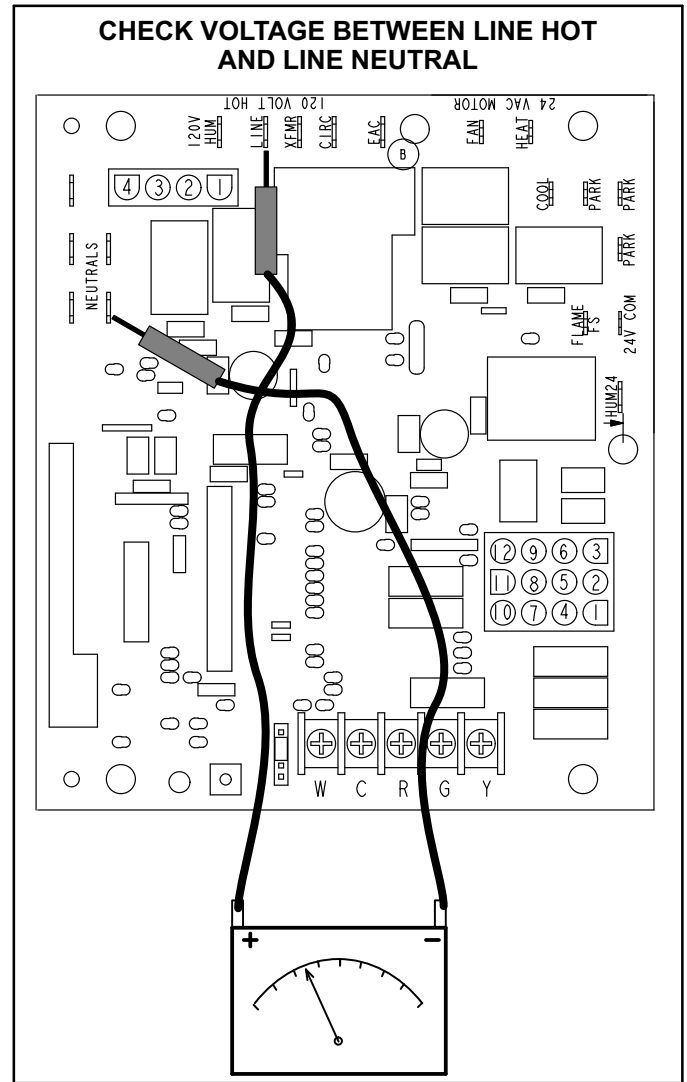

FIGURE 21
- 2 - In addition, measure the AC voltage from Line Hot to Line Neutral (spade terminals) on the integrated control. See figure 21. This voltage should be in the range of 97 to 132 Vac